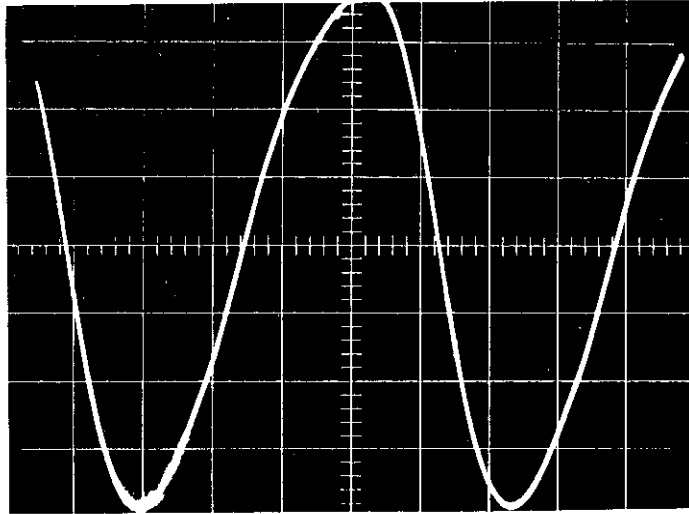

FIGURE 16. Correct Wave Form at Point F (Figure 21) in Oscillator Circuit. Scale is 2 v/cm vertical, 2 msec/cm horizontal.
4. Check the wave form at point F. It should be essentially sinusoidal, as in Figure 16.
If transistors Q21, Q22 or Q23 are replaced, it may be necessary to change resistor R307. A 27-kilohm resistor should provide the proper bias for Q22 and Q23. The wave form at point F should resemble Figure 16. If it does not but resembles Figure 17, use a 15-kilohm resistor for R307.